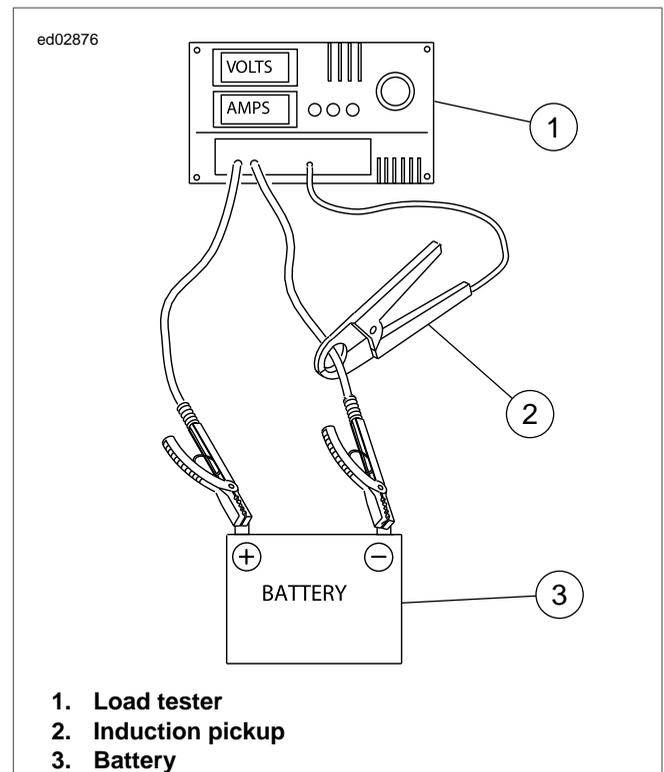

Figure 1-23. Load Test Battery
- See Figure 1-23. Connect tester leads to battery posts and place induction pickup over negative (black) cable.